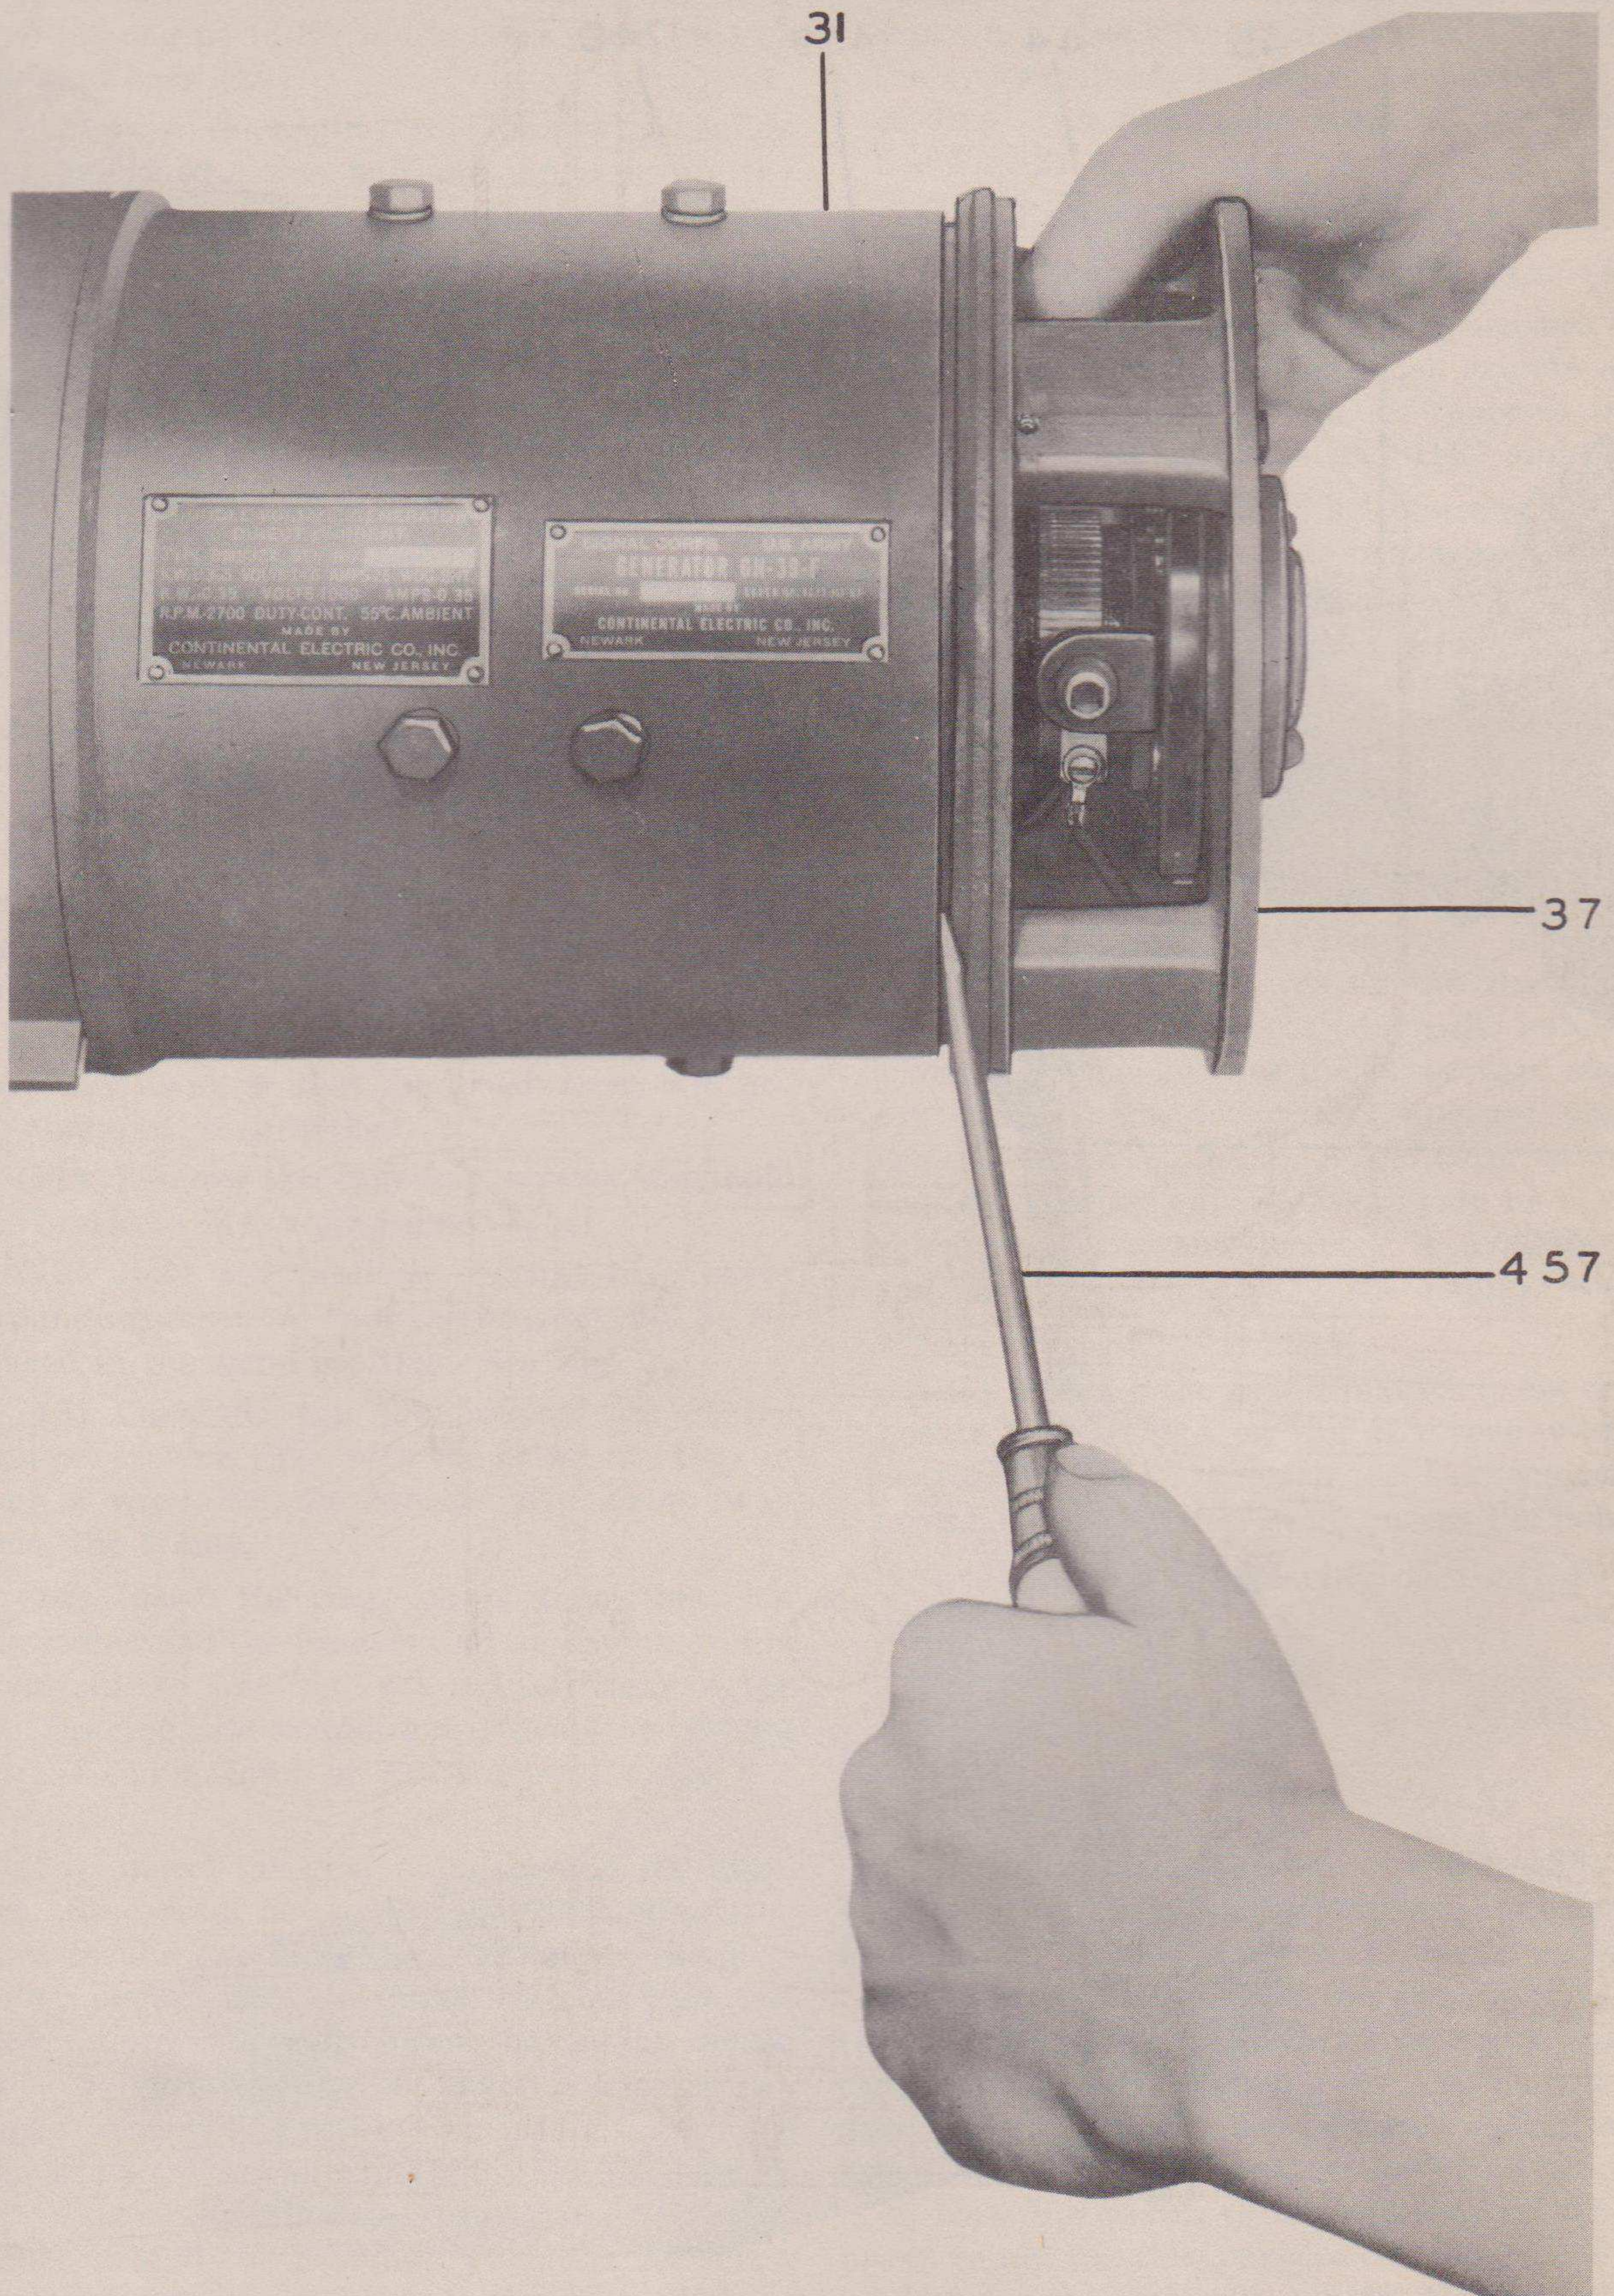
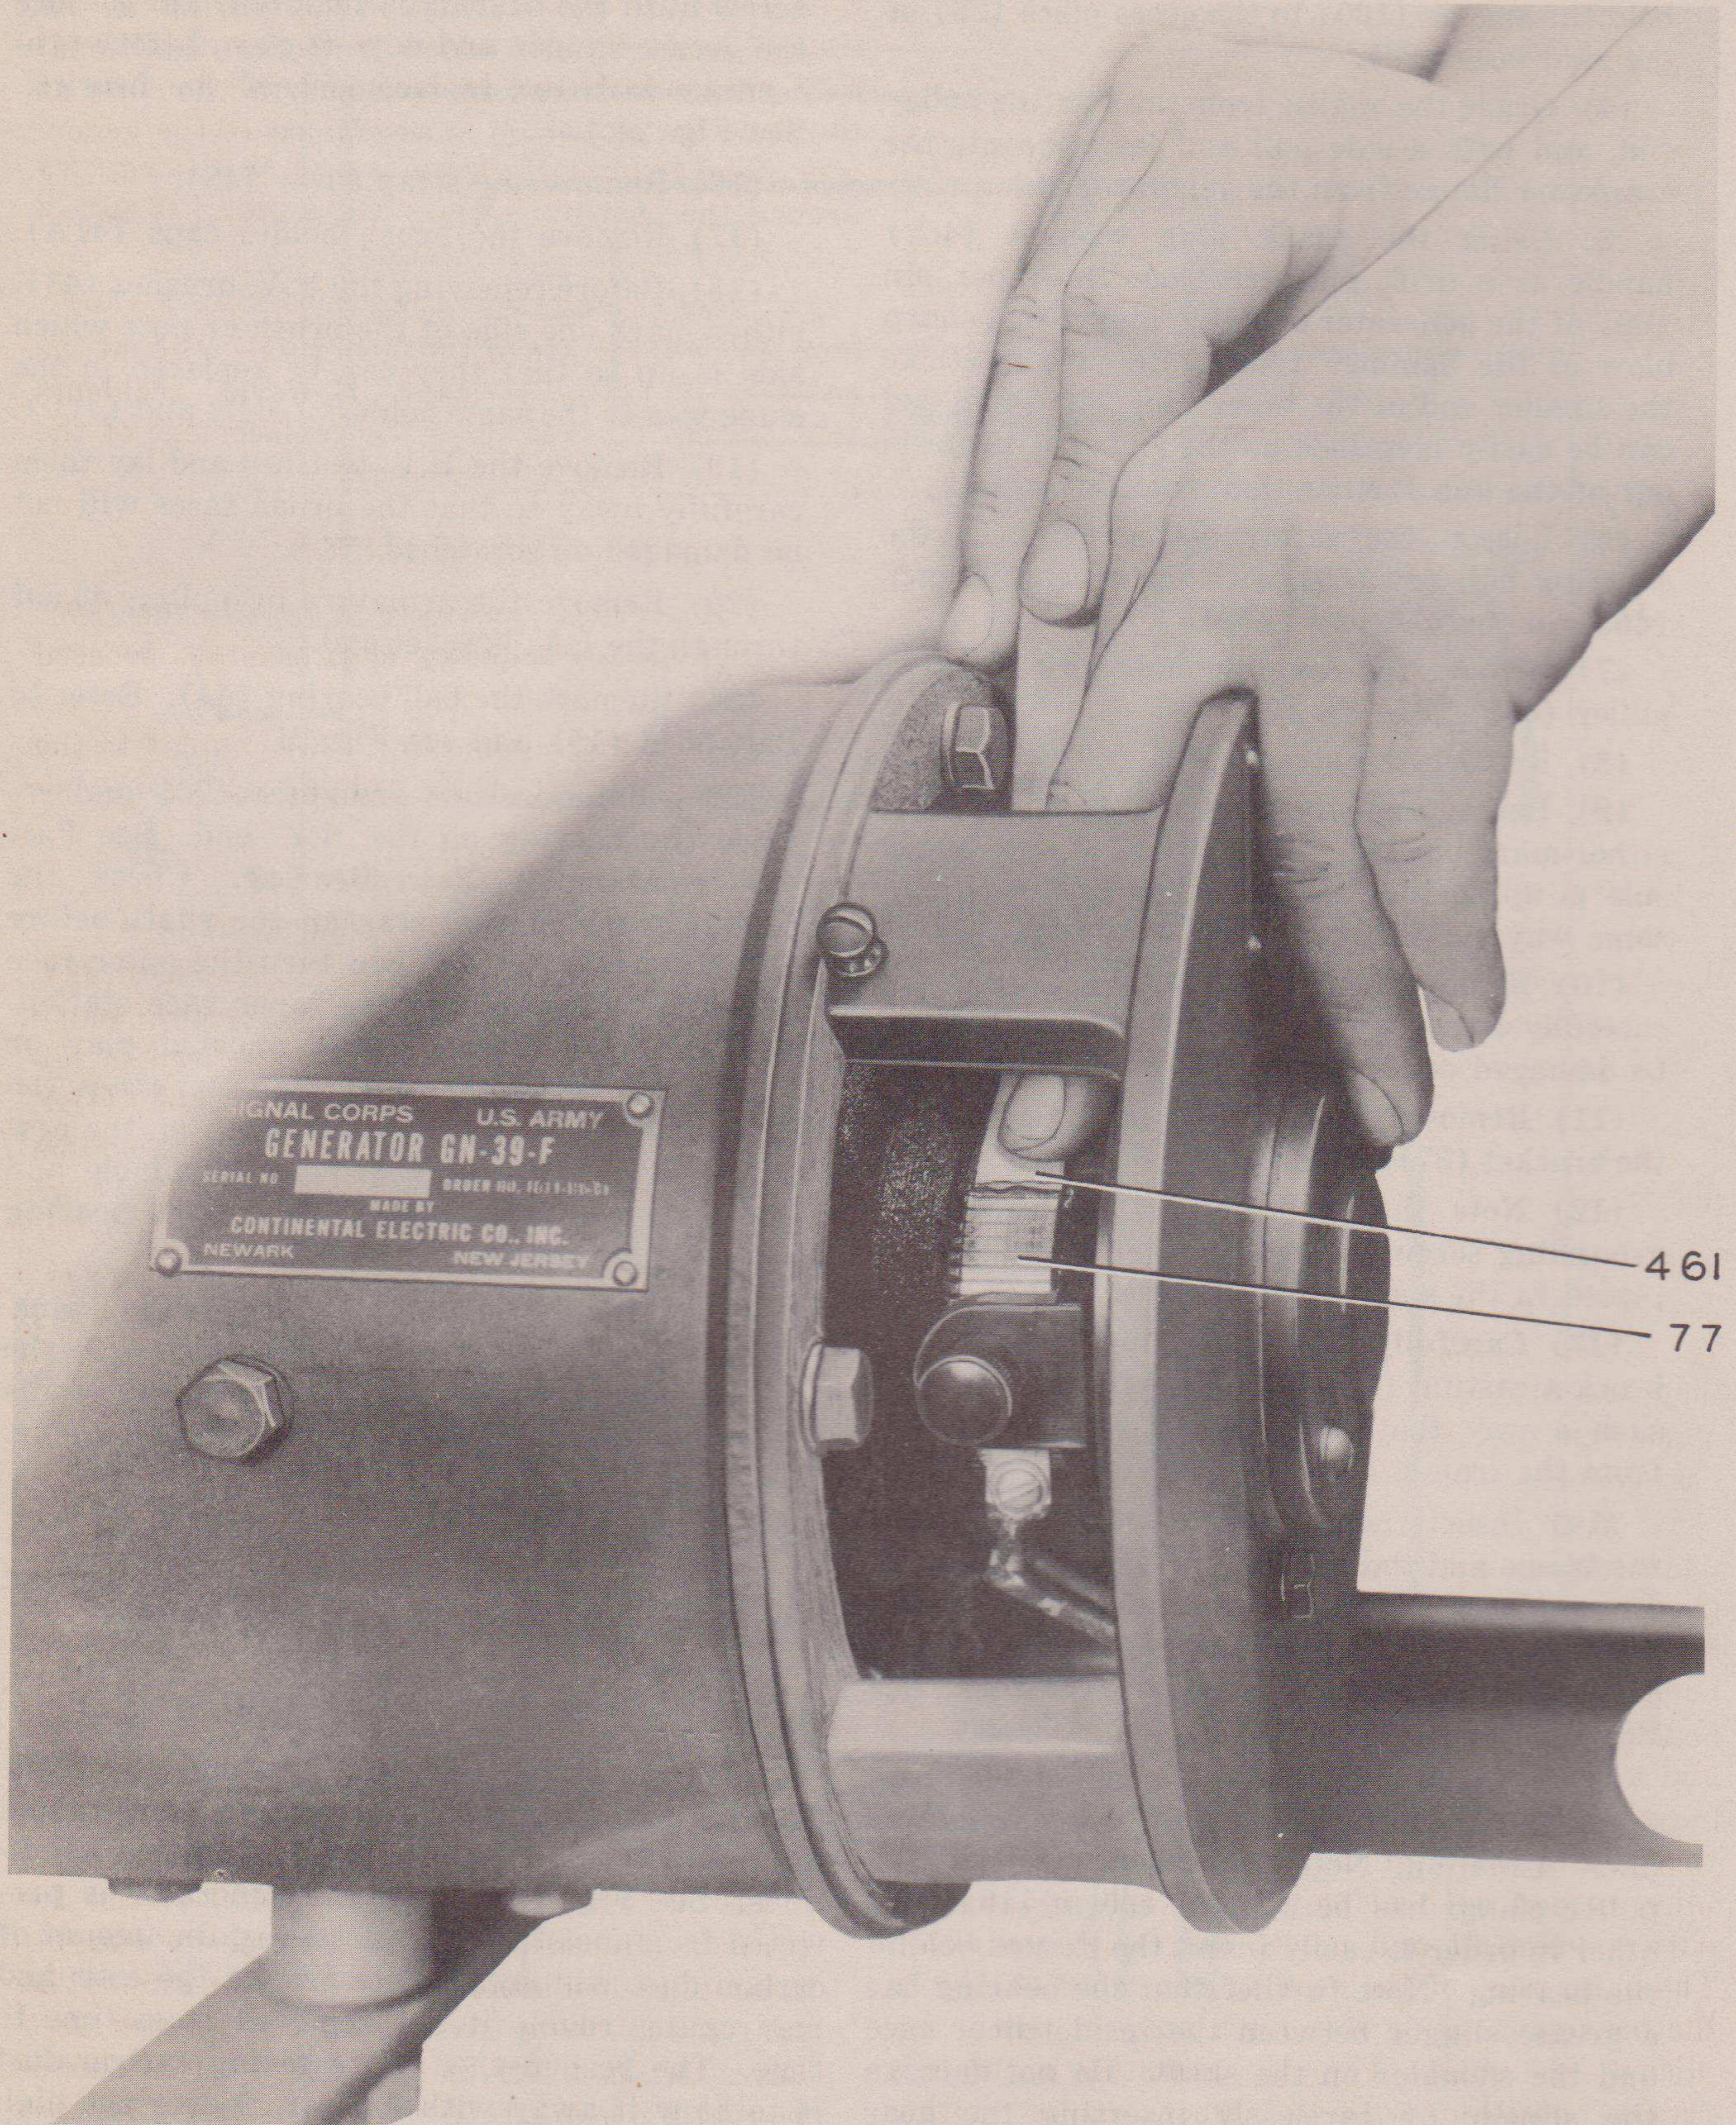
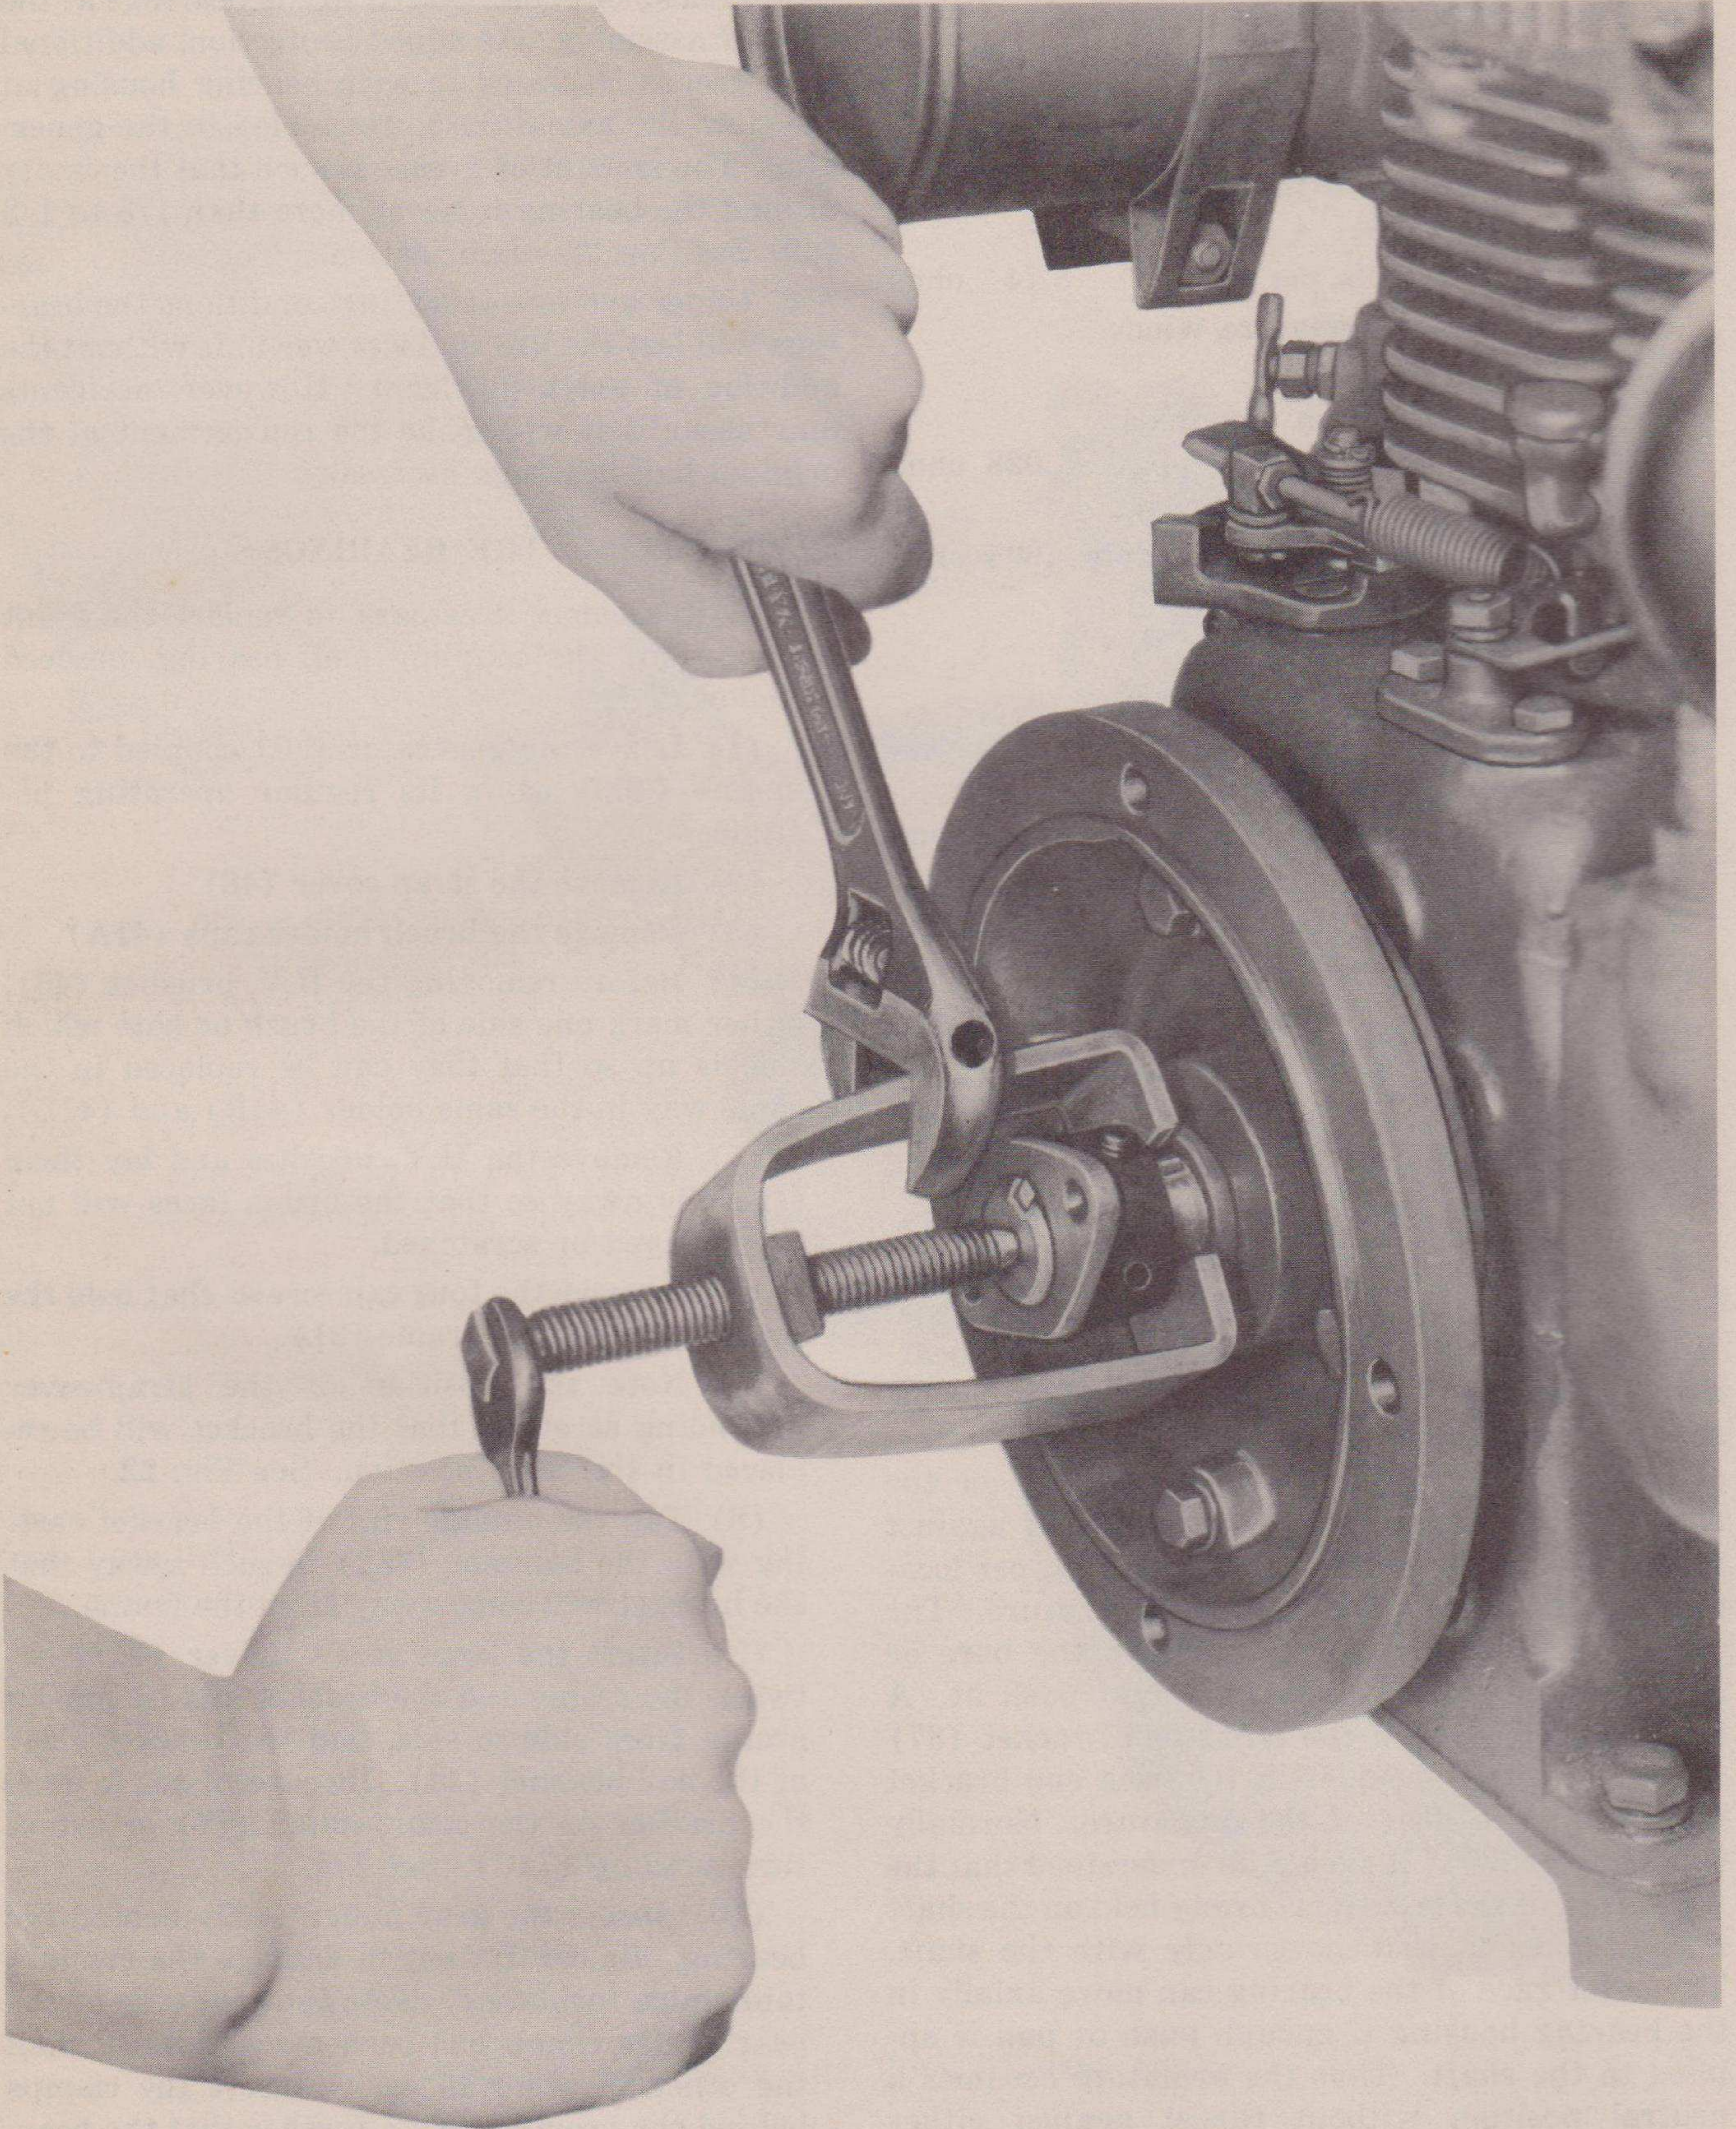

FIG. 20 REMOVING THE GENERATOR BEARING BRACKET
FIG. 22 SANDING THE COMMUTATOR
FIG. 23 REMOVING THE ENGINE COUPLING HUB
e. Spare brushes (43) and (57) are supplied with contact face formed to conform to the diameters of the commutators (77) and (76). They are therefore practically ready for use, but because proper seating is very essential for good operation and because of the slow wearing qualities of the brushes it is necessary to "sand in" the contact surfaces of new brushes.
(1) Sanding is performed by wrapping a strip of sandpaper (461) of grade 00 or finer, of the same width as the commutator (77), around the commutator, rough side toward the brushes, before inserting the brushes. After inserting the brushes, the armature (74) should be turned by hand in the normal direction of rotation, allowing the sandpaper (461) to wear away the contact surfaces of the brushes until the desired radius is obtained. Remove the sandpaper and blow or wipe away all traces of carbon dust.
a. Grease and oil must be kept off the commutators (77) and (76) and brushes (43) and (57) at all times. If any lubricant is present, remove it by wiping with a cloth saturated with carbon-tetrachloride.
b. In time, minute grooves may appear on the commutators from the action of the brushes. This is a normal condition of wear. If it gets serious, the commutators may be sanded with grade 00 or finer sandpaper (461) while the Generator GN-39-F (30) is running. Canvas or crocus cloth (460) may be used for polishing. See Fig. 22.
d. After a long period of operation the low voltage winding may fail to build up to full voltage. This condition is usually the result of the formation of a film on the commutator bars and is a natural characteristic produced by the low voltage brushes (57). The remedy is to sand the commutator (76) lightly with No. 00, or finer, sandpaper (461) or clean it with a cloth dampened with naphtha or carbon-tetrachloride. See Fig. 22.
a. Low output voltage and poor regulation usually indicate an internal short circuit in the armature (74). Severe sparking at one or both of the commutators (76) and (77) is a sign of an open circuit.
b. If sparking occurs, the brushes (43) and (57) should be examined to make sure they are properly fitted and are making good contact with the commutators.
c. If no fault can be found with the brushes, the armature should be "read out." This consists of measuring the resistance of the armature between the H.V. brushes (43) or the L.V. brushes (57) and also from bar to bar. In checking this resistance value refer to SERVICE DATA, Par. 37.
d. If it becomes necessary to replace the armature (74), proceed as follows: See Figs. 20 and 21.
(1) Take out the four bolts that hold the floating center (67) of the coupling (65) to the two hubs (66) and (66A) and remove it. Place the four bolts with nuts in the floating center so that they will not be misplaced.
(2) Remove the four bolts that hold the union ring bracket (51) to the engine crankcase flange (112).
(3) Remove the two "U" bolts (24) that hold the engine (100) to the cross piece (26) of the skid base (20).
(4) Grasp the engine from the starting pulley end, and with a side pull and jar, separate the crankcase flange from the generator union ring.
(5) Using the spark plug wrench (462) handle as a drift pin, drive out the taper pin (68) of the generator coupling hub with a sharp blow of the hammer (452). Be sure to strike the smaller end of the taper pin. The small end can be easily identified as the end that projects out of the hub farther than the larger end.
(6) Loosen the safety set screw over the coupling hub key (69) with the special wrench (465) in the tool bag (450).
(7) Remove the coupling hub with the gear puller (459). See Fig. 23.
(8) Remove the strap cover (60).
(9) Before removing the L.V. brushes (57), either mark one side of the brush or note which side is up so that they can be replaced in the same way.
(10) Remove the L.V. brushes and lay them carefully away so that the brush faces will not be damaged or scratched.
(11) Remove the four cap screws that hold the bracket (37) to the frame (31).
(12) Note the position of the strap cover grounding screw so that the bracket will be replaced in the same position. See Fig. 22.
(13) Carefully tap the outside rim of the bracket casting (37) with the hammer (452) in such a way that the bracket will come away from the frame.
(14) Insert the large screw driver between the frame and the bracket and by prying evenly from side to side, pull the bracket clear of the ball bearing. Be careful not to drop the bracket on the commutator or armature winding. See Fig. 20.
(15) Insert the gear puller behind the bearing. Be careful not to damage the commutator mica insulation. Note that one side of the gear puller clamp has been made thinner than the other in order to easily insert the clamps behind the bearing. Note further that the bearing has a grease slinger between the inside inner race and the shoulder on the shaft. Do not damage the slinger by carelessly inserting the gear puller behind the bearing. Turn the set screw by hand until the point is in the center-hole of the armature shaft. Use an open end wrench on the head of the set screw and while holding
(1) Leave the generator (30) coupled to the engine (100) as in its regular operating position.
(2) Remove the strap cover (48).
(3) Remove the brush holder caps (41A).
(4) Before removing the H.V. brushes (43), either mark one side of the brush or note which side is up so that they can be replaced in the same way in the same holder (41R) and (41L).
(5) Remove the H.V. brushes and lay them carefully away so that the brush faces will not be damaged or scratched.
(6) Remove the four cap screws that hold the bracket (37) to the frame (31).